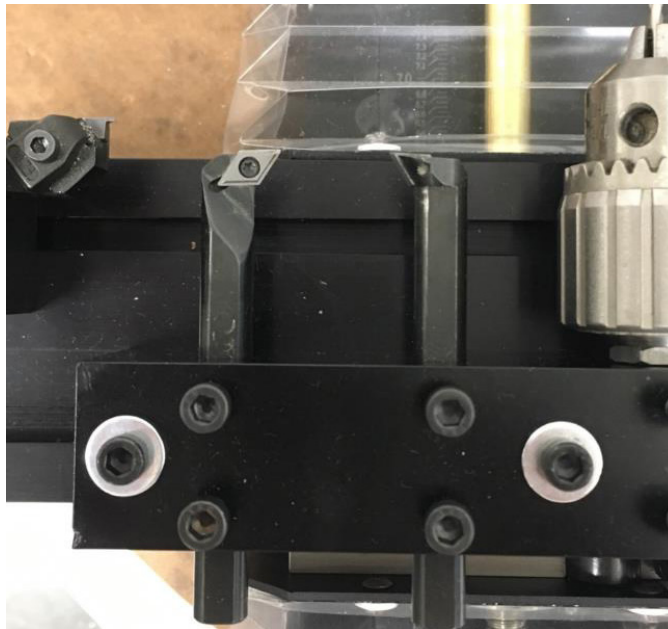

FIGURE 20—NOTE: the LH and RH 55 degree tools are set up to cut on opposite sides of the part.
2. For this part we are using the following tools (see Figure 20):